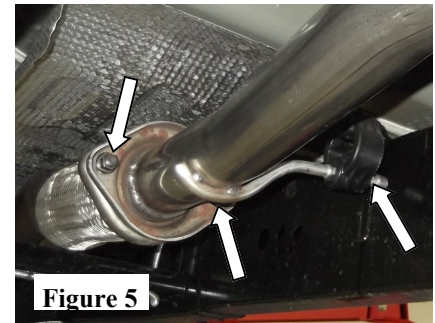

Figure 5
1. Install the **Front Pipe Assembly** to the flange using original hardware and inserting the hanger into the rubber isolator. (See Fig. 5)